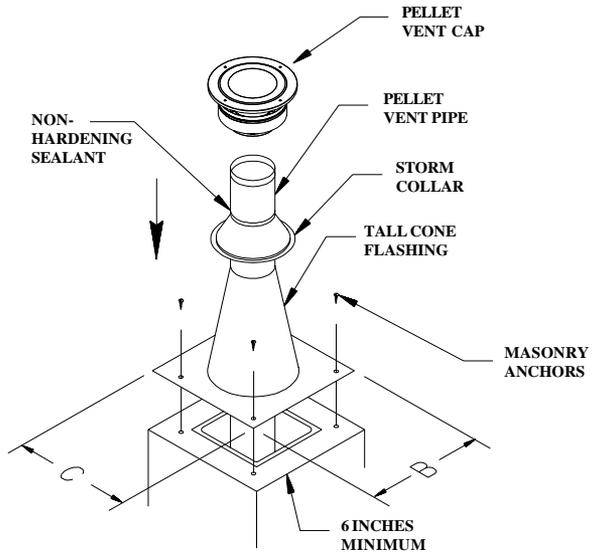
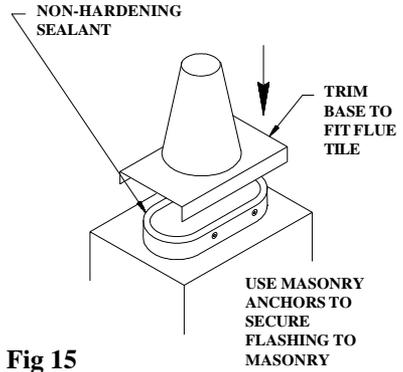

Fig 13
Fig 15
11. For the termination of the pellet vent, you will use a Tall Cone Flashing, and a Storm Collar. This will require 14 inches of pipe above the top of the masonry chimney. Pull the pipe up through the flashing to the desired height. Mark where the Storm Collar will go. Slip the Storm Collar down over the pipe, and affix it to the pipe with a 1/4"-long stainless steel sheet metal screw. (Figures 13 & 14). The Storm Collar will then support the entire vent system. Install the Cap. Seal the joint at the Storm Collar, and any other joints or seams which may appear suspect. Figure 15 show a Tall Cone Flashing modified to fit a chimney where the tile liner protrudes